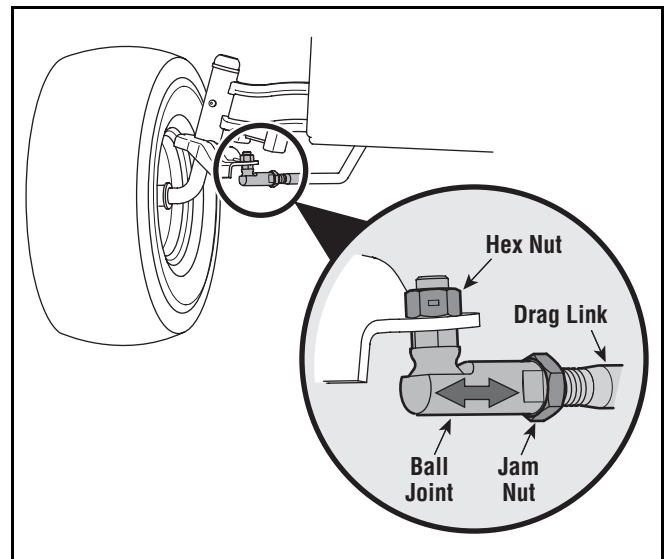

Figure 10
- Loosen the jam nut found on the drag link at the rear of the ball joint. See Figure 10.
- Remove the hex nut on the top of ball joint. See Figure 10.